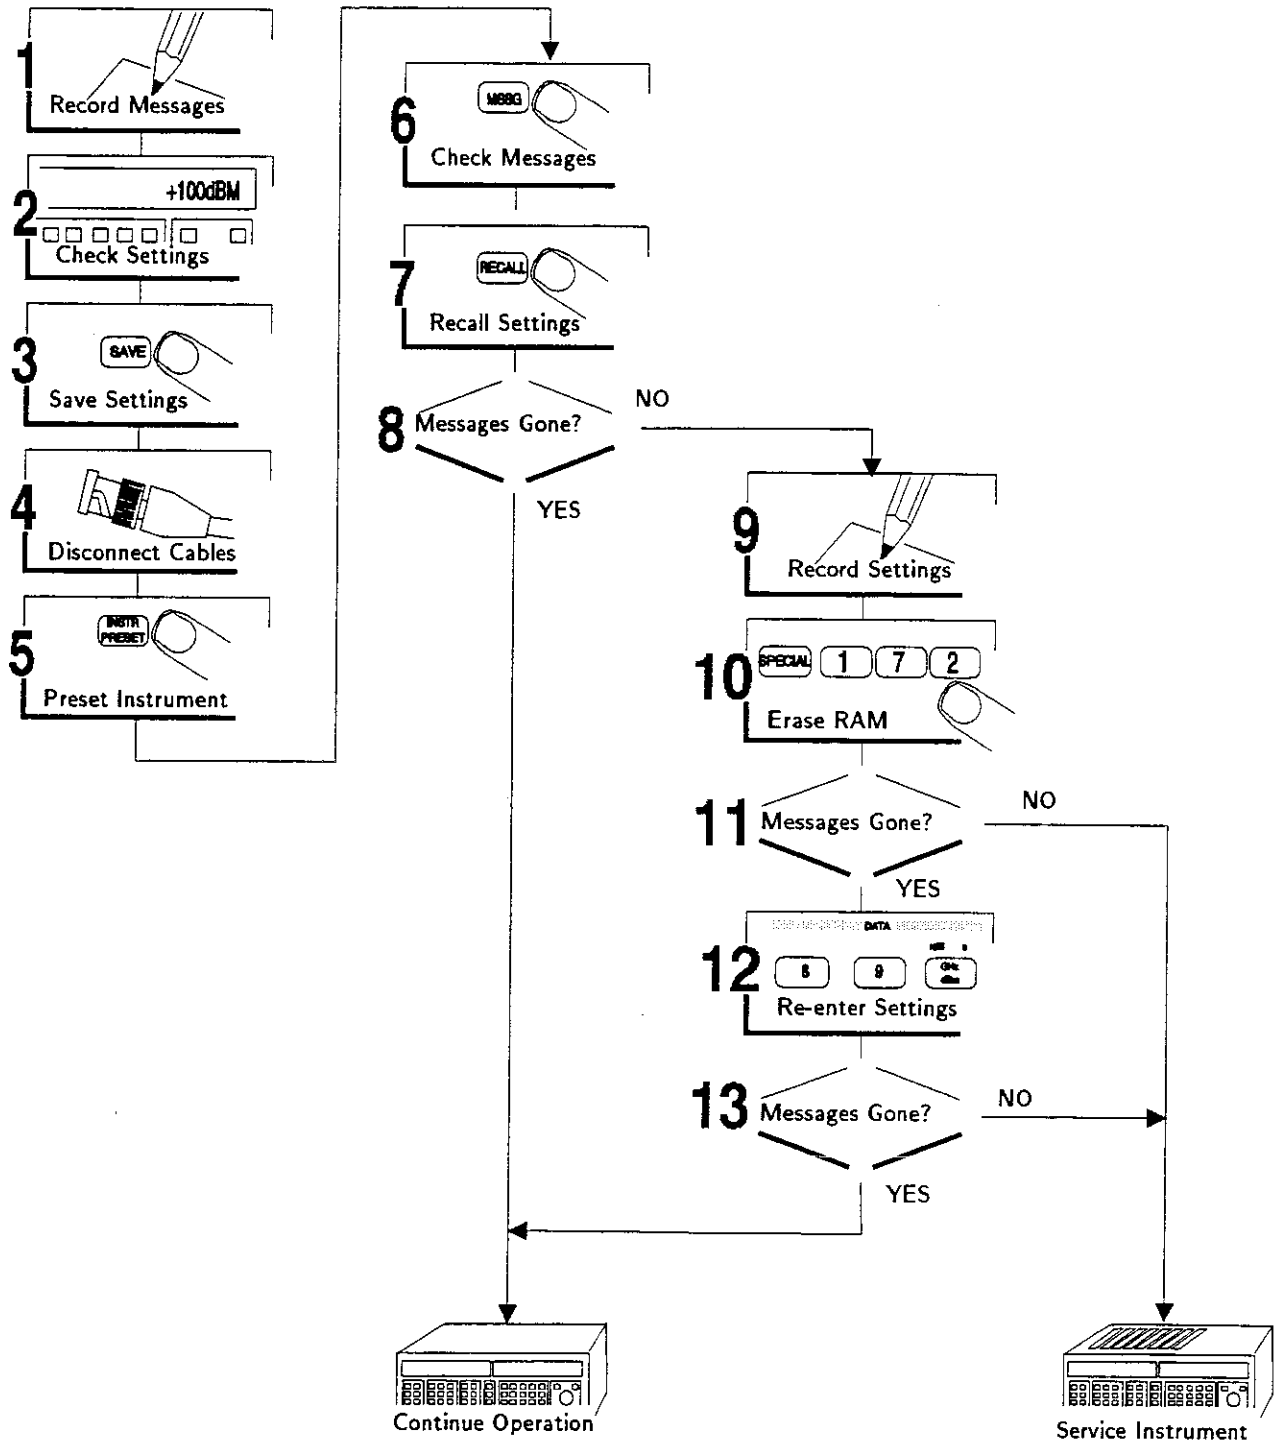

Figure 7-1. Corrective Action for Error Messages
Hardware Failure 1	A communications discriminator failure has been detected at power up, or detected as a result of a self-calibration or self-test. Refer to figure 7-1 for corrective action.
Hardware Failure 2	A VCO failure has been detected at power up, or detected as a result of a self-calibration or self-test. Refer to figure 7-1 for corrective action.
Hardware Failure 3	A Fractional-N failure has been detected at power up, or detected as a result of a self-calibration or self-test. Refer to figure 7-1 for corrective action.
Hardware Failure 4	A modulation distribution failure has been detected at power up, or detected as a result of a self-calibration or self-test. Refer to figure 7-1 for corrective action.
Hardware Failure 5	An ALC failure has been detected at power up, or detected as a result of a self-calibration or self-test. Refer to figure 7-1 for corrective action.
Hardware Failure 6	An attenuator failure has been detected at power up, or detected as a result of a self-calibration or self-test. Refer to figure 7-1 for corrective action.
Hardware Failure 7	An audio source failure has been detected at power up, or detected as a result of a self-calibration or self-test. Refer to figure 7-1 for corrective action.
Hardware Failure 8	A reference failure has been detected at power up, or detected as a result of a self-calibration or self-test. Refer to figure 7-1 for corrective action.
Hardware Failure 9	A doubler failure has been detected at power up, or detected as a result of a self-calibration or self-test. Refer to figure 7-1 for corrective action.
Hardware Failure 13	A front panel failure has been detected at power up, or detected as a result of a self-calibration or self-test. Refer to figure 7-1 for corrective action.
Hardware Failure 14	A power supply failure has been detected at power up, or detected as a result of a self-calibration or self-test. Refer to figure 7-1 for corrective action.
Hardware Failure 15	An I/O board failure has been detected at power up, or detected as a result of a self-calibration or self-test. Refer to figure 7-1 for corrective action.
Hardware Failure 16	A controller failure has been detected at power up, or detected as a result of a self-calibration or self-test. Refer to figure 7-1 for corrective action.
Hardware Failure 18	A frequency counter failure has been detected at power up. Refer to figure 7-1 for corrective action. Unit should have option 011. If unit was turned off for a long period (ex: 30 days), the instrument will need recalibrated. For option 011, a cable must be attached on the front panel.
Hardware Failure 21	A communications discriminator out-of-lock (OOL) condition exists. Refer to figure 7-1 for corrective action.
Hardware Failure 23	A Fractional-N (NF) phase-locked-loop (PLL) out-of-lock (OOL) condition exists. Refer to figure 7-1 for corrective action.
Hardware Failure 24	A VCO frequency-locked-loop (FLL) out-of-lock (OOL) condition exists. Refer to figure 7-1 for corrective action.
Hardware Failure 25	A VCO phase-locked-loop (PLL) out-of-lock (OOL) condition exists. Refer to figure 7-1 for corrective action.
Hardware Failure 26	A fast controller failure has been detected at power up, or detected as a result of a self-calibration or self-test. Refer to figure 7-1 for corrective action.
Hardware Failure 27	An audio source out-of-lock (OOL) condition exists. Refer to figure 7-1 for corrective action.
Hardware Failure 28	A reference out-of-lock (OOL) condition exists. Refer to figure 7-1 for corrective action.
Hardware Failure 31	A ROM failure has been detected at power up, or detected as a result of a self-calibration or self-test. Refer to figure 7-1 for corrective action.
Hardware Failure 32	A ROM failure has been detected at power up, or detected as a result of a self-calibration or self-test. Refer to figure 7-1 for corrective action.
Hardware Failure 33	A ROM failure has been detected at power up, or detected as a result of a self-calibration or self-test. Refer to figure 7-1 for corrective action.
Hardware Failure 34	A ROM failure has been detected at power up, or detected as a result of a self-calibration or self-test. Refer to figure 7-1 for corrective action.
Hardware Failure 35	A voltmeter failure has been detected at power up, or detected as a result of a self-calibration or self-test. Refer to figure 7-1 for corrective action.
Hardware Failure 36	A RAM failure has been detected at power up, or detected as a result of a self-calibration or self-test. Refer to figure 7-1 for corrective action.
Calibration Error 1	A condition occurred where invalid level calibration data resides in either the Output or the Attenuator modules. Follow the external calibration procedures outlined in figure 7-1 .
Calibration Error 2	At some time during the calibration or self-test, a condition occurred where some hardware was unable to be calibrated. Fix the hardware and re-calibrate. Refer to figure 7-1 for corrective action. This error message will always be accompanied by other error messages.
User Memory Cleared	A memory failure has been detected, all battery backup memory is lost. Refer to figure 7-1 for corrective action.